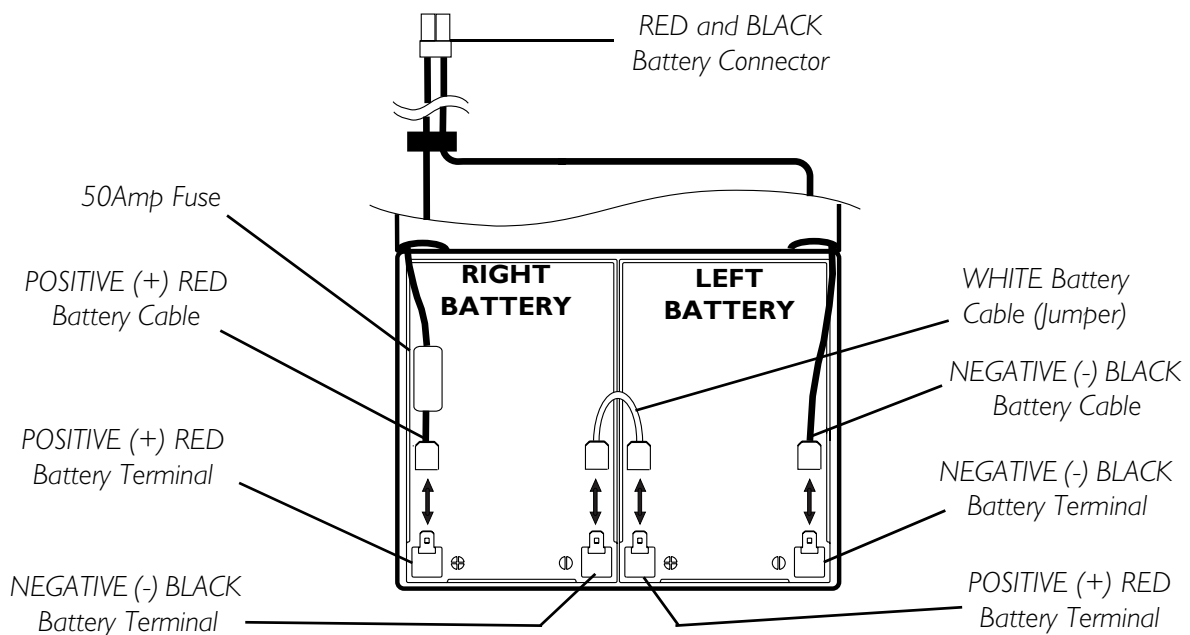

FIGURE 12.2 - REMOVING/INSTALLING THE BATTERIES ON 300
When connecting the battery cables to the batteries, the battery cables **MUST** be connected to the battery terminals/posts as shown in **FIGURE 12.2** for 300 and **FIGURE 12.5** for 400 - otherwise damage to the battery may result.
NOTE: For this procedure, refer to FIGURE 12.2.
6. Disconnect the RED and BLACK battery connector from the wiring harness assembly (Detail "B" of FIGURE 12.2).
7. Disconnect the wiring harness from the batteries by holding the connectors and pulling them in the following order (Detail "B" of FIGURE 12.2):
8. Remove the existing batteries from battery tray by lifting the batteries OUT in the direction shown in Detail "A" of FIGURE 12.2.
5. Install two (2) batteries into the battery tray.
6. Connect the wiring harness to the new batteries in the following order (Detail "B" of FIGURE 12.2):
8. Secure batteries in the battery tray using the battery strap (Detail "A" of FIGURE 12.2).